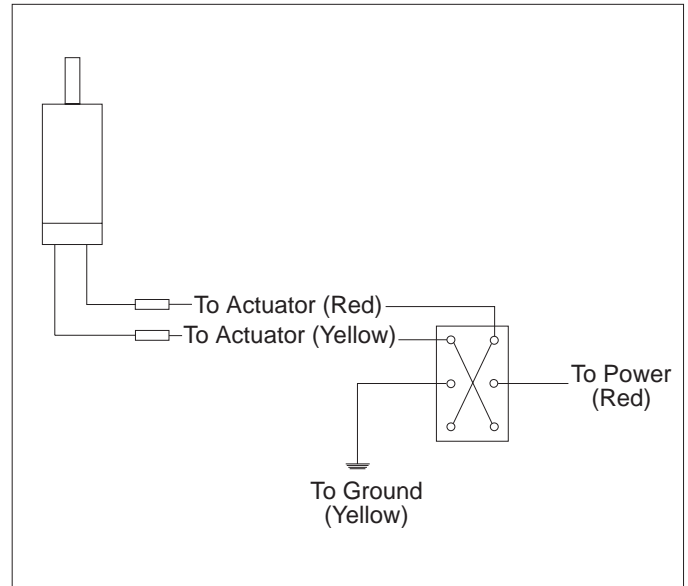

figure 4
5. Connect the red wire from the switch to the tractor power supply. Connect the yellow wire to a good ground, preferably the battery ground or tractor frame (figure 4).